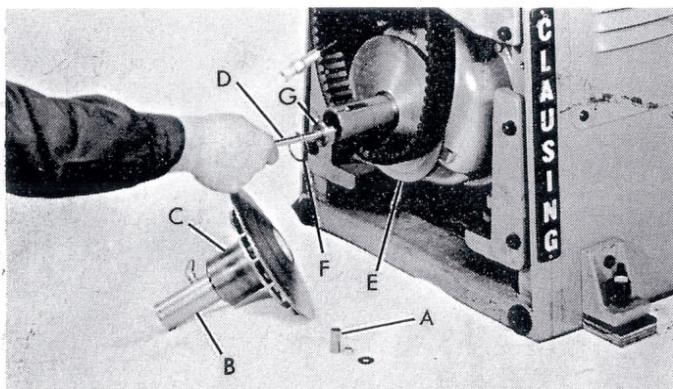
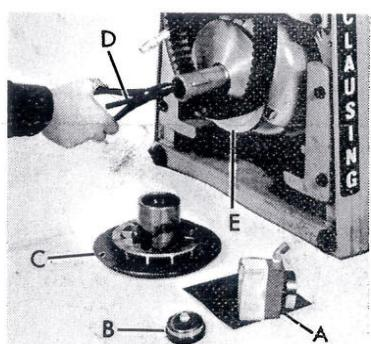

FIGURE 2
FIGURE 4
6. Remove sleeve (A, fig. 2) from hydraulic cylinder.
7. Pull hydraulic cylinder (B) with outer half of variable pulley (C) off shaft (D).
8. Press hydraulic cylinder (B) with bearing from outer half of variable pulley (C) being sure internal washer in pulley (snap ring on early models) remains in place.
CAUTION: Washer (snap ring on early models) must be in place in outer half of variable pulley (C, fig. 2) before installing bearing and housing assembly (A, fig. 4). An extra washer is supplied to aid in assembly if necessary.
9. With snap ring pliers, remove snap ring (F, fig. 2) from inner half of variably pulley.
10. Remove shaft (D) and bearing (G) from inner half of variable pulley (E).
2. Insert new shaft and collar assembly (D, fig. 4) into inner half of variable pulley (E) being sure pin in the collar lines up with key way in pulley (E), secure with retainer ring.
3. Press new hydraulic cylinder (A) assembled (less outer bearing assembly B) into outer half of variable pulley (C).